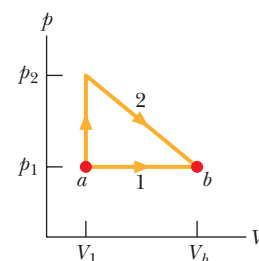

Figure 18-60 Problem 98.
**98** The  $p$ - $V$  diagram in Fig. 18-60 shows two paths along which a sample of gas can be taken from state  $a$  to state  $b$ , where  $V_b = 3.0V_1$ . Path 1 requires that energy equal to  $5.0p_1V_1$  be transferred to the gas as heat. Path 2 requires that energy equal to  $5.5p_1V_1$  be transferred to the gas as heat. What is the ratio  $p_2/p_1$ ?